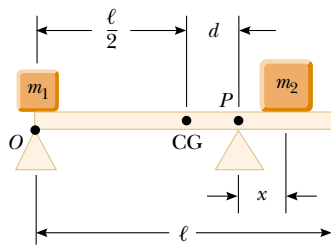

Figure P12.3
- WEB 3. A uniform beam of mass m_b and length ℓ supports blocks of masses m_1 and m_2 at two positions, as shown in Figure P12.3. The beam rests on two points. For what value of x will the beam be balanced at P such that the normal force at O is zero?